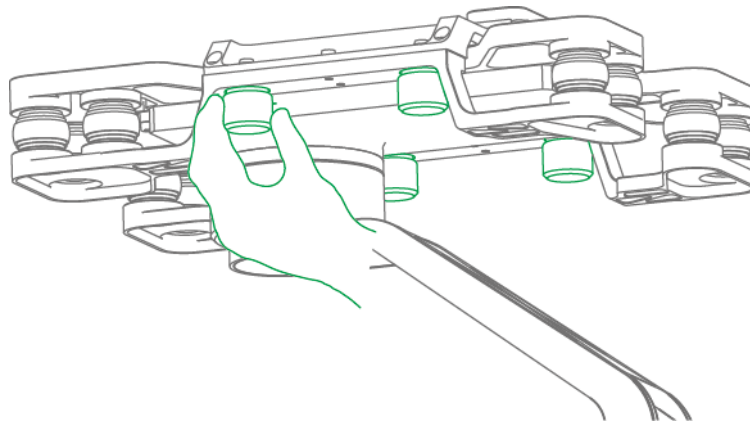

Figure 5-6
Step 1 Loosen 4 mounting screws, as shown in Figure 5-6.